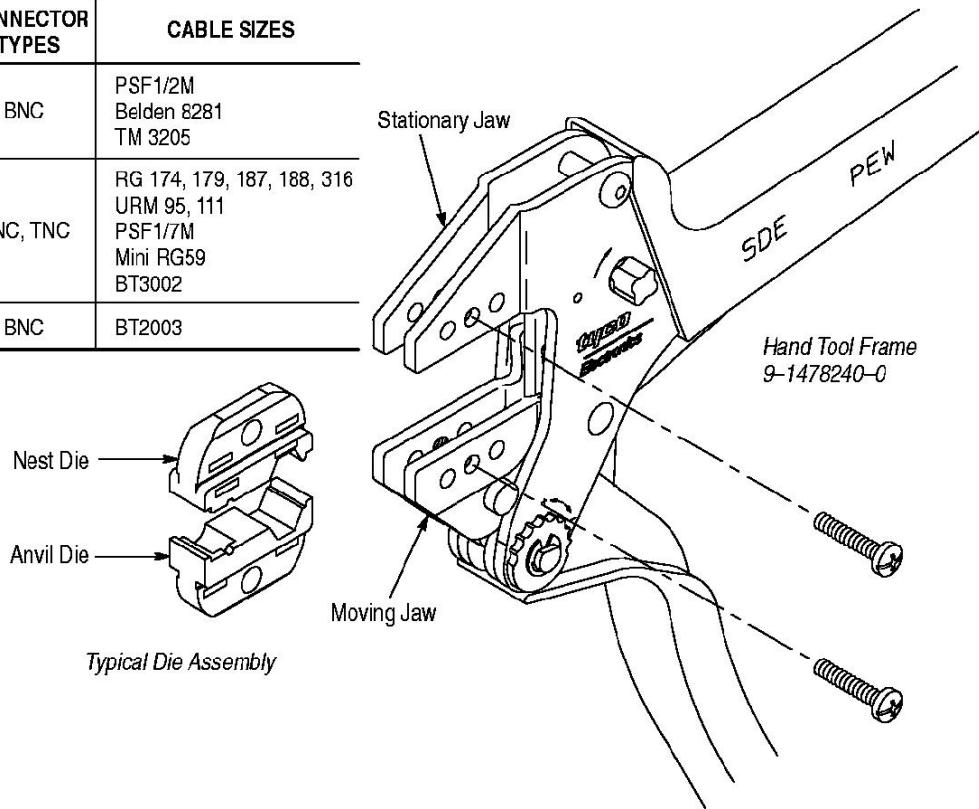

Figure 1
This instruction sheet covers the use and maintenance of GREENPAR Crimping Dies 9-1478243-0, 9-1478245-0, and 9-1478247-0 (in their various configurations – denoted by the dash number following the base part number), used in Hand Tool Frame 9-1478240-0. The dies crimp various plug connectors onto coaxial cable. See Figure 1 for a list of the connector types and cable sizes each die set can crimp.
#### 2. DESCRIPTION (Figure 1)
2. See Figure 1 for normal orientation of the dies. Insert the dies inside the tool jaws and align the retaining screw holes.